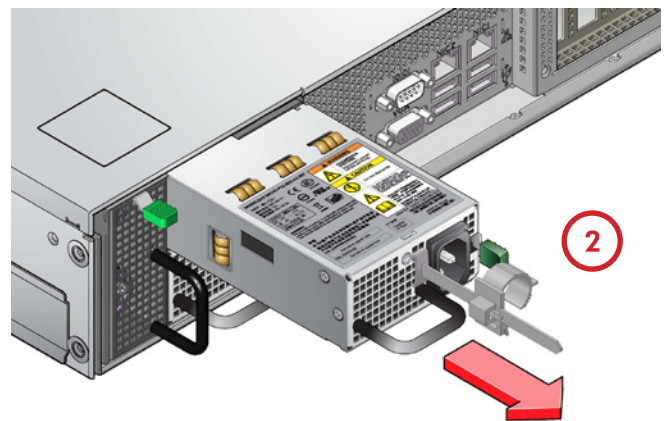

Figure 4b: Removing a PSU
4. Grip the handle and withdraw the PSU (Figure 4b).